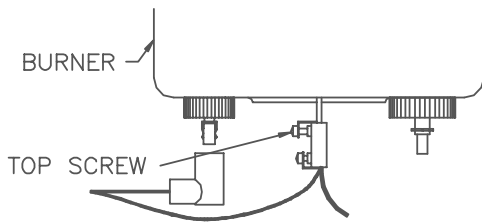

Figure 7.2
6. Remove the grounding terminal from the burner by loosening the upper screw and sliding the connector from the grounding rod. (See Fig. 7.2)